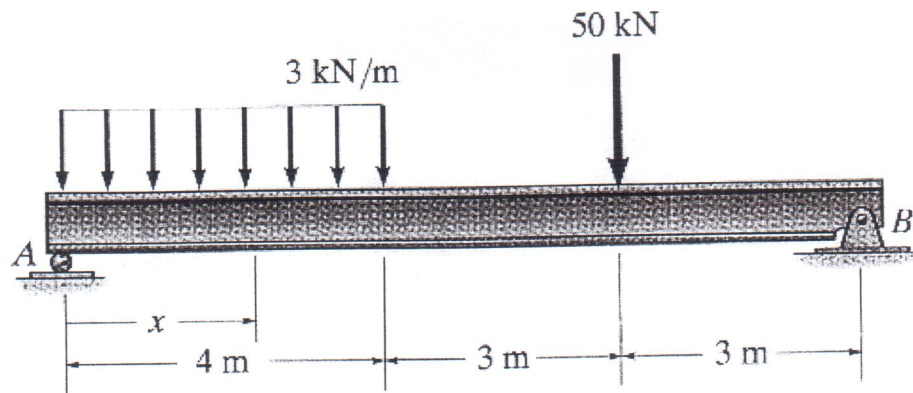

Figure 8.
- (8) For the beam shown in **Figure 8** determine the displacement at $X = 7$ m and the slope at A . EI is constant.